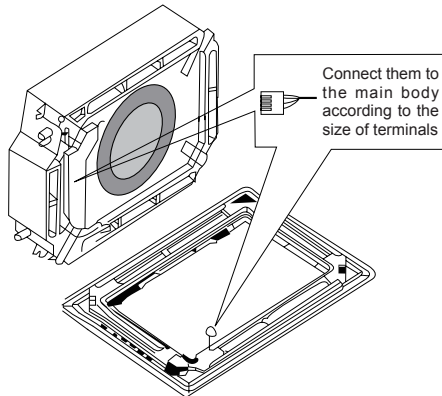

Fig. 4.34
- (4). Wire the swing louver motor as shown in Fig. 4.34.